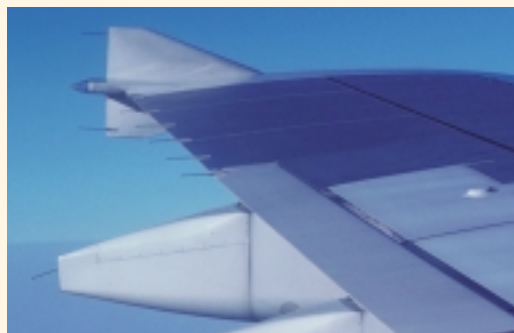

Figure 13
- Why are the conducting strips long and thin and placed near the end of the wings (**Figure 13**)?